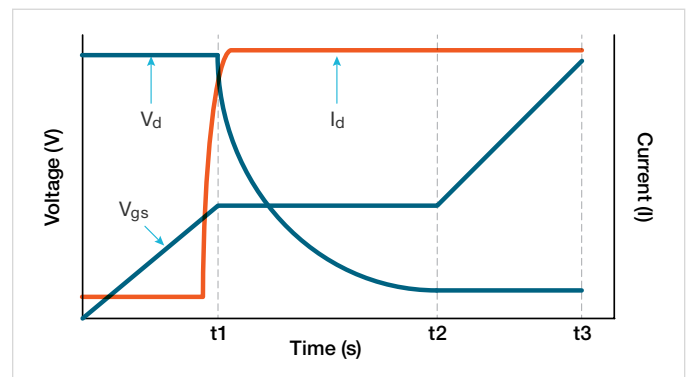

Figure 2.  $V_{gs}$ ,  $V_d$ , and  $I_d$  vs. time of MOSFET.
**Figure 2** shows typical gate and drain waveforms as a function of time. As current is forced to the gate,  $V_{gs}$  increases until it reaches the threshold voltage. At this point, the drain current ( $I_d$ ) begins to flow. When  $C_{gs}$  is charged up at time  $t1$ ,  $I_d$  stays constant and the drain voltage ( $V_d$ ) decreases.  $V_{gs}$  remains constant until it reaches the end of the plateau. Once  $C_{gd}$  is charged at time  $t2$ , the gate-source voltage ( $V_{gs}$ ) starts to increase again until it reaches the specified maximum gate voltage ( $V_{gsMax}$ ).